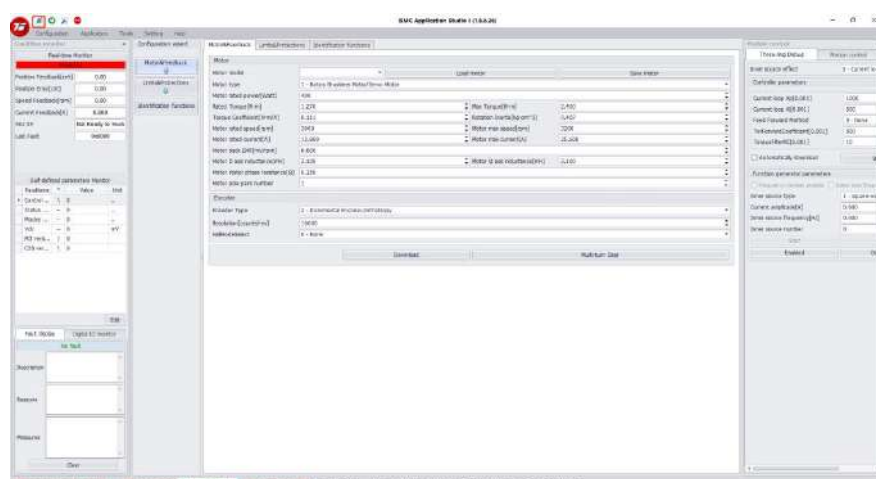

Figure 3-1 Communication settings window
- ① Confirm that the USB driver has been installed, please refer to the chapter 1.3 Driver Installation for the driver installation tutorial.
- ② Connect the host computer to the drive using a USB cable (Micro type B).
- ③ Select the "**Configuration**" submenu in the main menu, and tap to view the communication settings window, as shown in Figure 3-1.